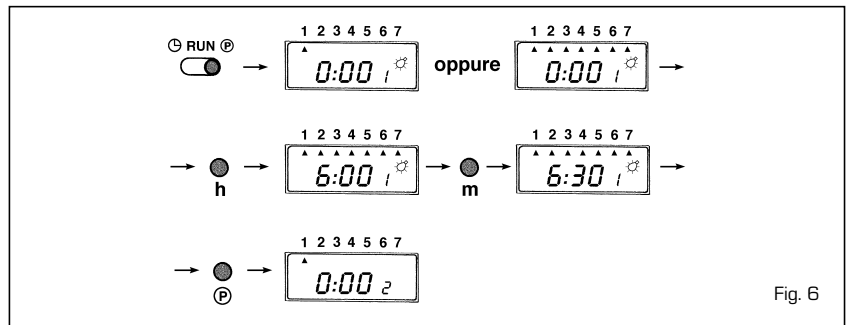

Fig. 6
- Setting the programme (fig. 6)